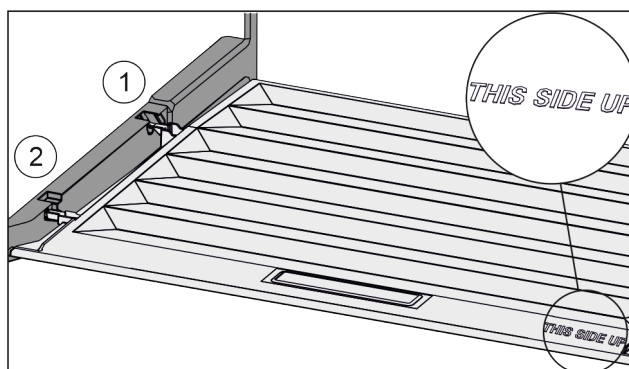

Fig. 76
- ▶ Insert the lip of the cover over the opening of the rear bracket Fig. 76 (1) and click into place Fig. 76 (2).